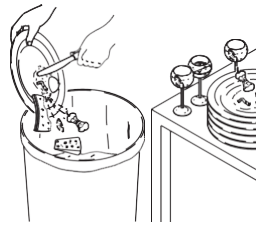

Fig. 13
- *remove food remains from cutlery before placing them in the dishwasher to washing (fig. 13)*